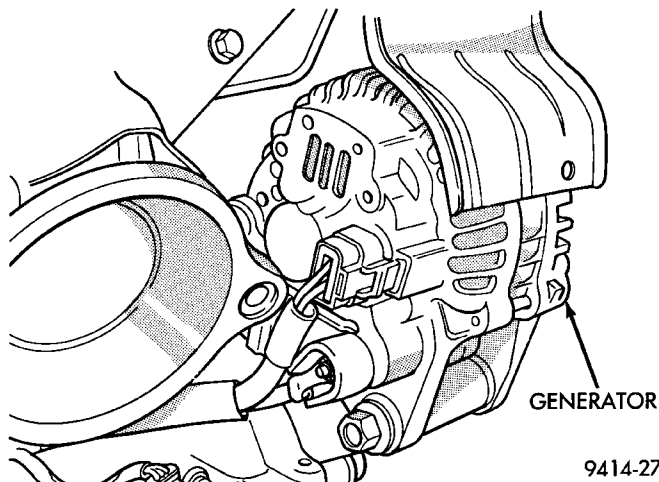

Fig. 44 Generator
(17) Inspect the electrical connections at the generator (Fig. 44). Check the generator belt for glazing or damage.